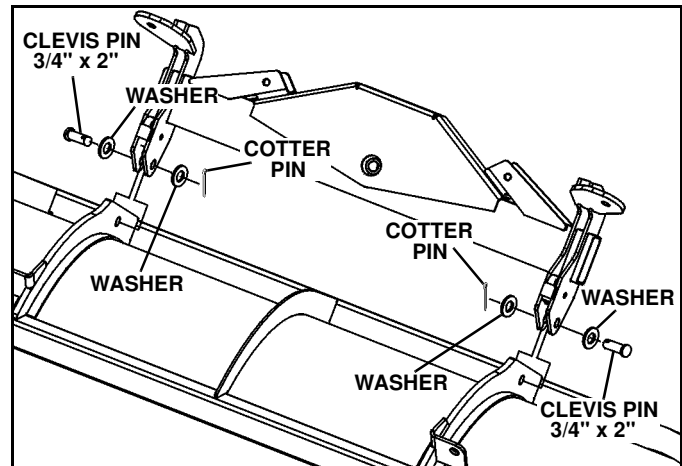

Figure 1-5
4. Install swing frame on blade, aligning the ribs on either side of the center rib between the swing frame lugs. Insert 3/4" x 2" clevis pins and washers from blade parts bag through the mounting holes in the swing frame and blade from the outside, securing at the inside with washers and cotter pins. (See Figure 1-5).